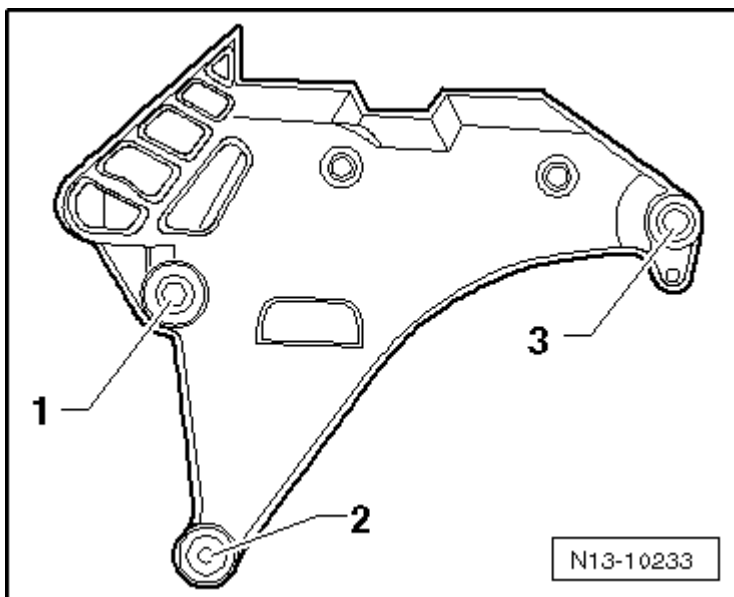

Fig. 9: Identifying Engine Mount Bracket to Cylinder Block Bolt Tightening Sequence
- Observe the tightening sequence, refer to Fig. 9.